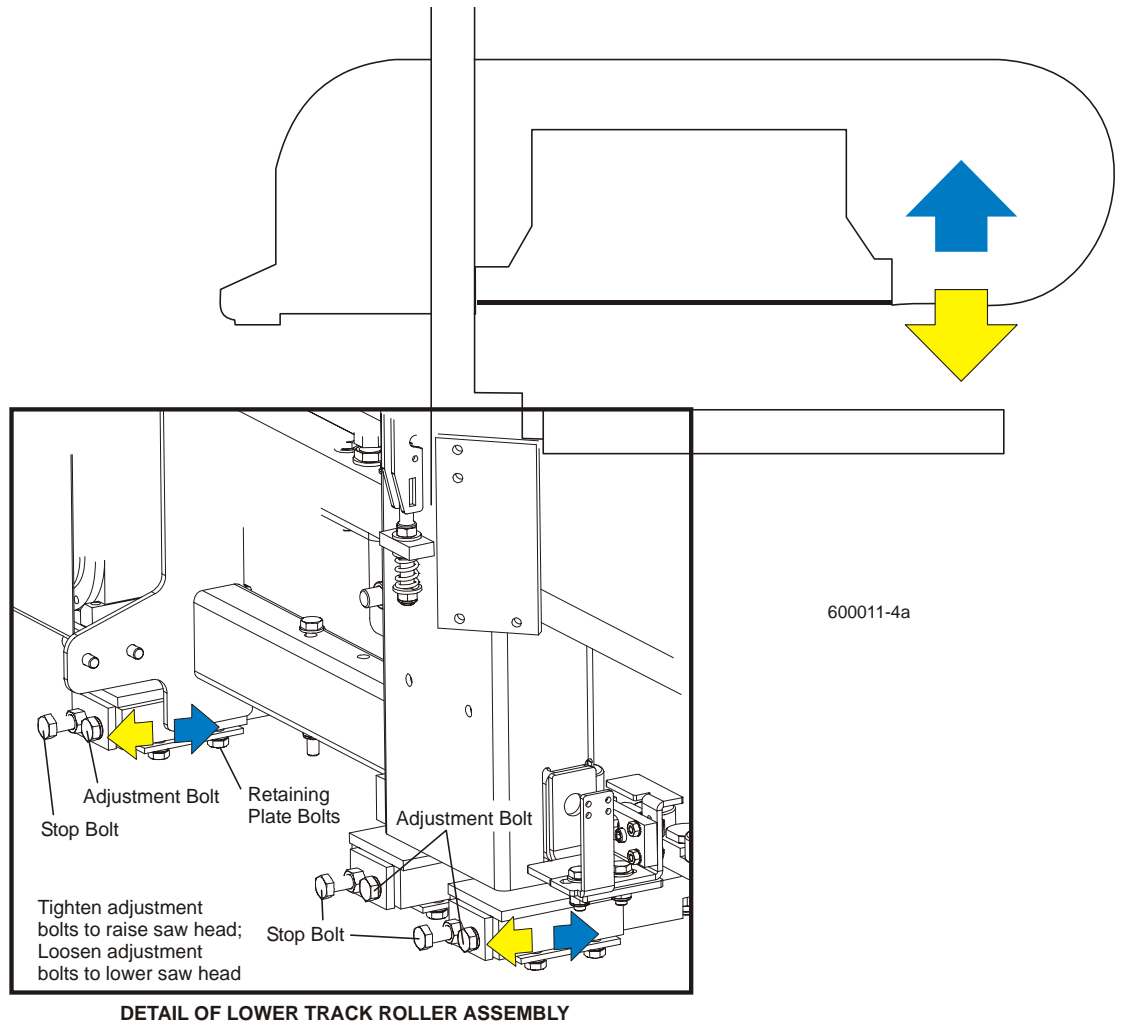

FIG. 5-2
**See Figure 5-2.** To adjust the saw head tilt, use the bolts located at the bottom of the saw head mast. Loosen the three sets of four retaining plate bolts. To raise the outside of the saw head, back the stop bolts out, then tighten the adjustment bolts. To lower the outside of the saw head, loosen the adjustment bolts and tighten the stop bolts. Recheck the measurement from the blade to the bed rails and adjust the stop bolts and adjustment bolts until the outside of the saw head is 1/26" (1mm) higher than the inside. Retighten the retaining plate bolts..